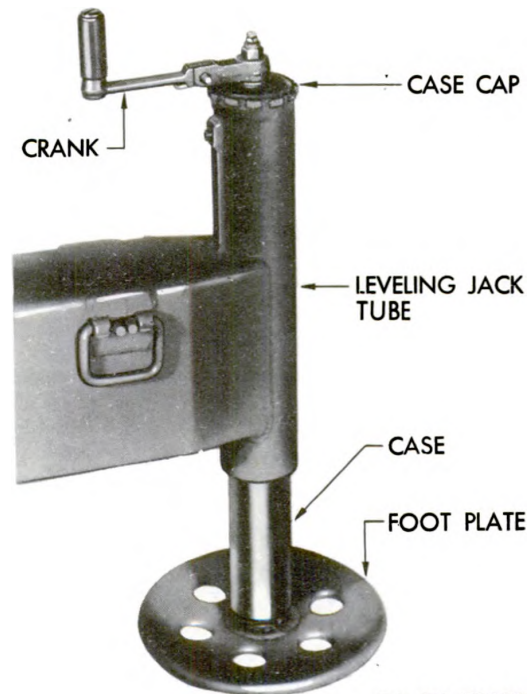
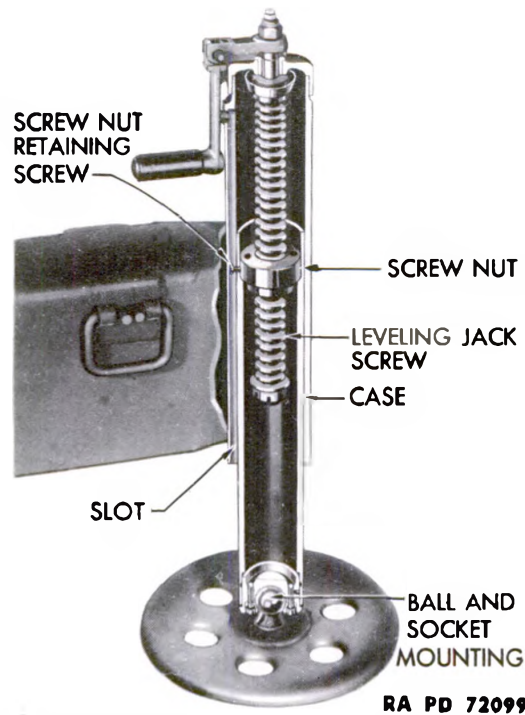

Figure 57 – Leveling Jack With Crank Extended
Figure 58 – Leveling Jack – Cutaway View
(1) Leveling jack bodies are welded to the ends of the outriggers (figs. 57 and 58) and front and rear girders. These bodies house the leveling jack cases, screws, and mechanisms. The leveling jacks provide a means for leveling the mount in firing position.
(2) Each jack has a circular foot plate to afford considerable contact with the ground, and a hinged crank which is extended to operate the jack (fig. 57) or is folded downward and fitted into grooves in the case cap to lock the jack in position (fig. 58). The handle is retained in extended and folded positions by a spring-loaded plunger. The foot plate has a ball and socket mounting to compensate for uneven ground and an outer flange and a number of flanged circular openings to prevent movement on the ground.
(3) The handle of the leveling jack is keyed to the leveling jack screw (fig. 58). When the handle is turned, the leveling jack screw